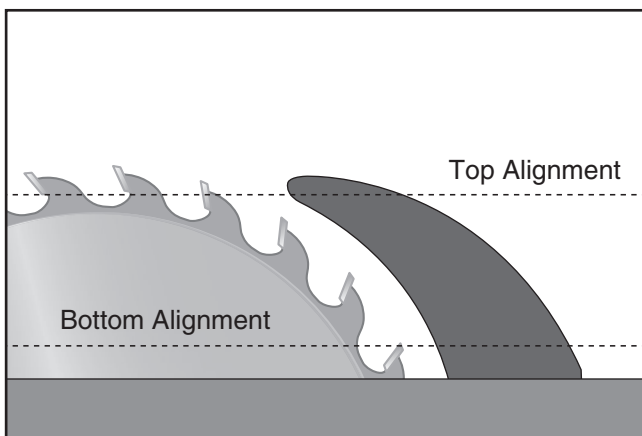
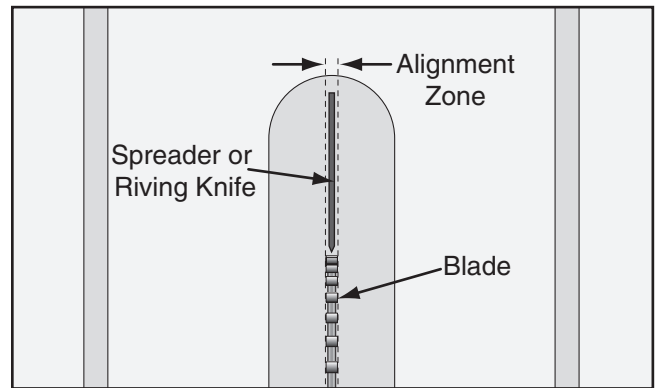

Figure 110. Checking top and bottom riving knife parallelism with blade.
Figure 111. Spreader/riving knife alignment zone.
3. Place the straightedge against the side of the blade and spreader/riving knife at the top and bottom, as shown in **Figure 110**. The spreader/riving knife should be parallel with the blade along its length at both positions, and in the "Alignment Zone," as shown in **Figure 111**.